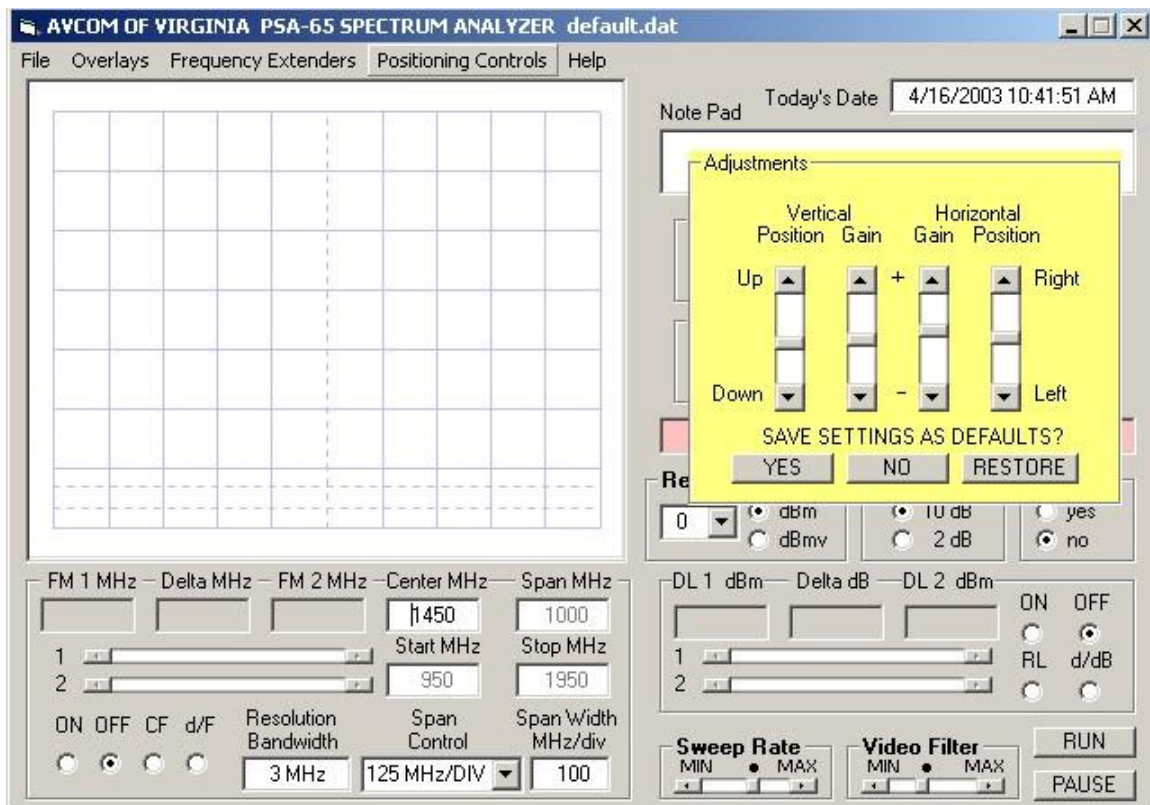

Figure 14-1
1. To launch these adjustments, click on POSITIONING CONTROLS at the top of the program (See figure 14-1).